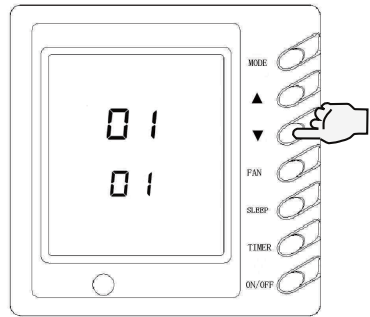

Fig.21
A. Indoor ambient temp is air inlet temp and the setting temp area displays 01, as shown in Fig.21.